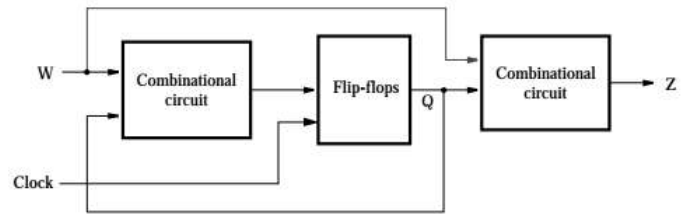

Figure 9.1. The general form of a sequential circuit
Synchronous sequential circuits are realized using combinational logic and one or more flip-flops. The general structure of such a circuit is shown in figure 9.1. The circuit has a set of primary inputs, W , and produces a set of outputs, Z . The values of the outputs of the flip-flops are referred to as the *state*, Q , of the circuit. Under control of the clock signal, the flip-flop outputs change their state as determined by the combinational logic that feeds the inputs of these flip-flops. Thus the circuit moves from one state to another. To ensure that only one transition from one state to another takes place during one clock cycle, the flip-flops have to be of the edge-triggered type. They can be triggered either by the positive (0 to 1 transition) or by the negative (1 to 0 transition) edge of the clock. We will use the term *active clock edge* to refer to the clock edge that causes the change in state.
Figure 9.1 indicates that the outputs of the sequential circuit are generated by another combinational circuit, such that the outputs are a function of the present state of the flip-flops and of the primary inputs. Although the outputs always depend on the present state, they do not necessarily have to depend directly on the primary inputs. Thus the connection shown in blue in the figure may or may not exist. To distinguish between these two possibilities, it is customary to say that sequential circuits whose outputs depend only on the state of the circuit are of *Moore* type, while those whose outputs depend on both the state and the primary inputs are of *Mealy* type. These names are in honour of Edward Moore and George Mealy, who investigated the behaviour of such circuits in the 1950s.
- An FSM is defined by the state-assigned table in figure 9.1. Derive a circuit that realizes this FSM using D flip-flops!
- Derive a circuit that realizes the FSM defined by the state-assigned table in figure 9.1 using JK flip-flops!